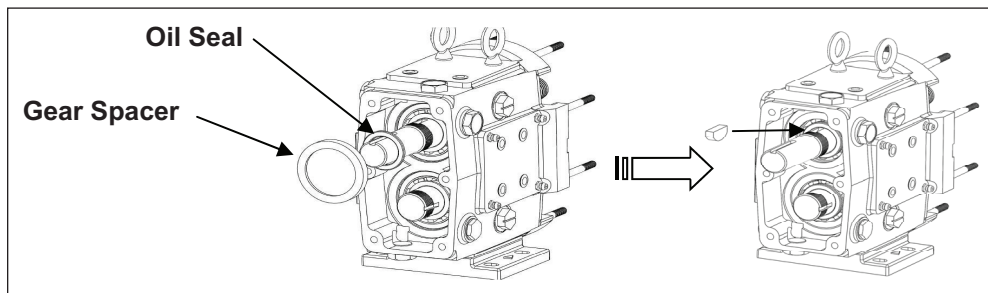

Figure 56. Rear Oil Seal and Gear Key Installation
7. Install the gear spacers onto the shaft. Apply a light film of lubricant to the inside and outside diameters of the rear oil seals and install them into the back of the gear case with the spring side facing outward toward the gear. Place the gear keys into the shaft key slots (Figure 56).